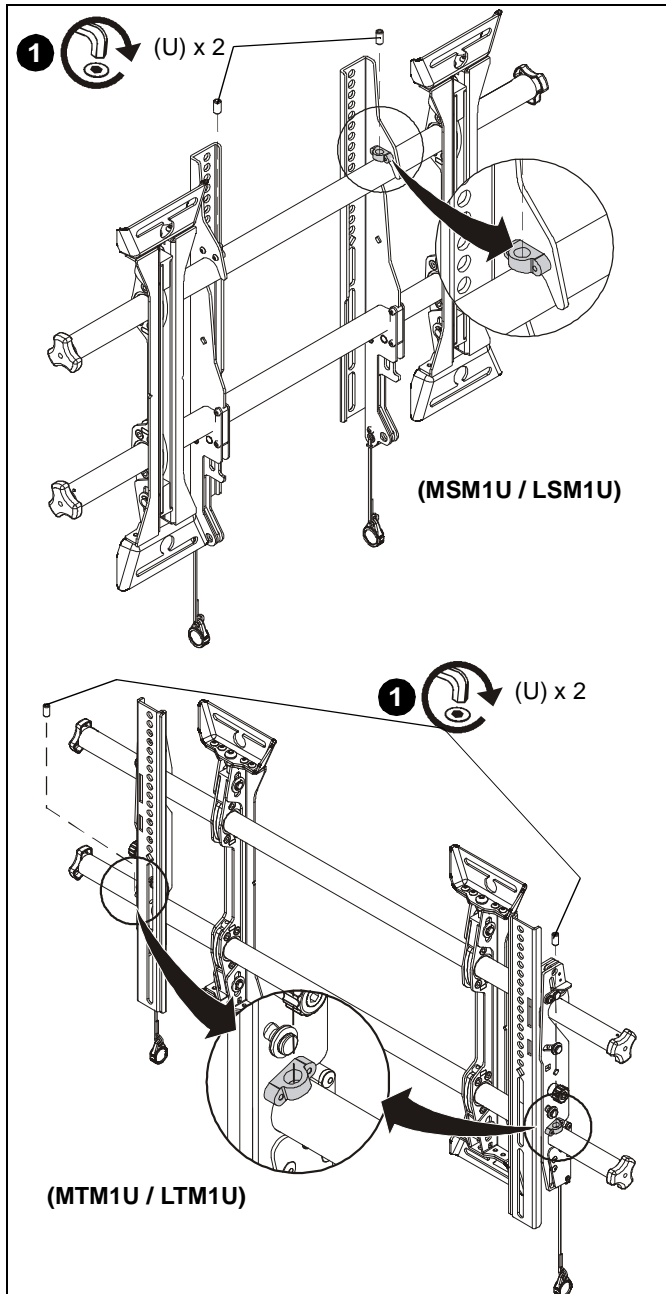

Figure 15
1. Lock screen interface brackets onto mount rails using one 3/8-16 x 3/4" set screw (U) on each interface bracket. (See Figure 15)